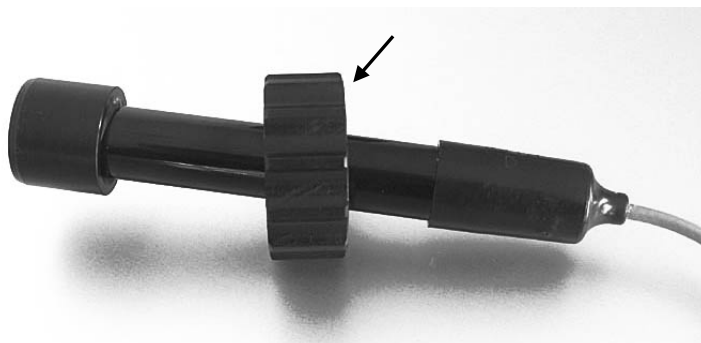

Fig. 10: Preparing the pH electrode
3. Locate the lock nut that is shipped with the monitor and thread the cable of the pH electrode through the nut as shown in Fig. 10. This is required to fix the pH electrode to the pH flow cell during operation.